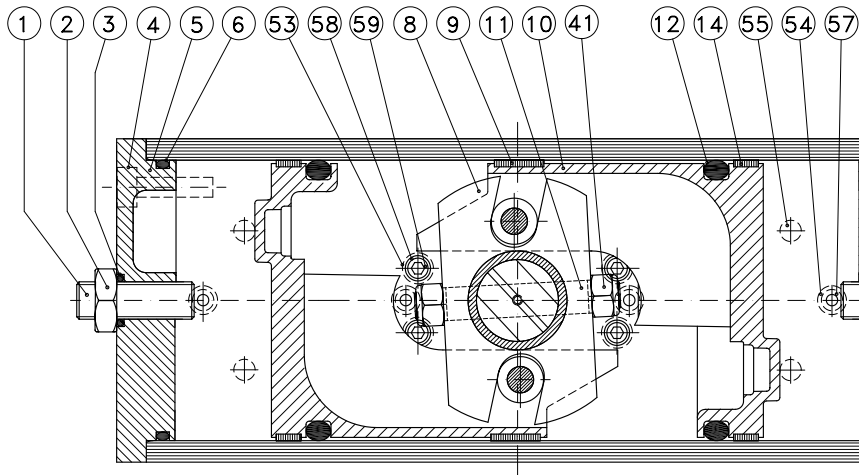
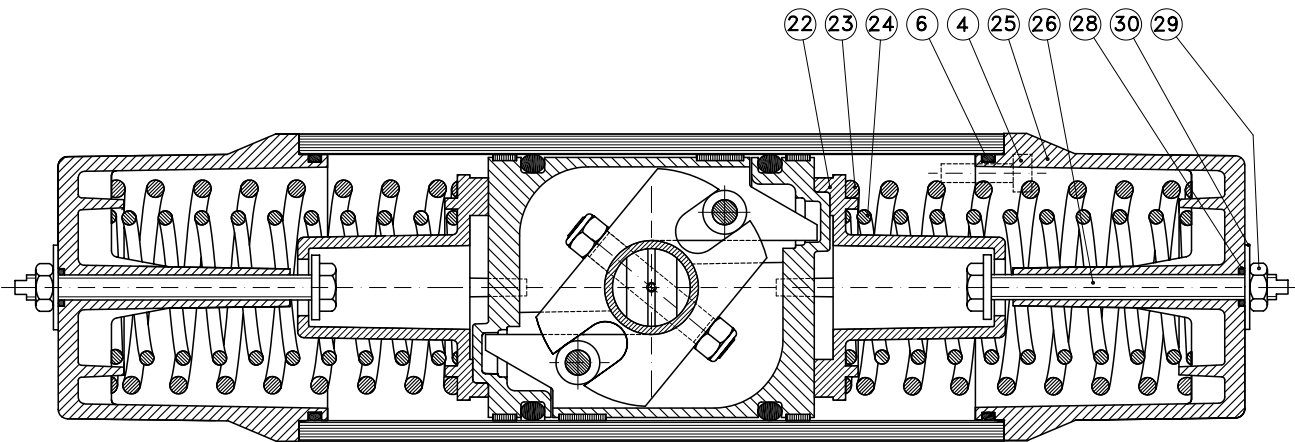

Fig. 1 RC88-DA actuator. Upper cylinder from above. Drawing 007188A
Fig. 4
The Scotch Yoke of the RC actuators has canted slots. Thus the actuator can be given different function depending on how the pistons are mounted in the actuator. The pistons are mounted according to Fig.1, page 3, or Fig.4, in order to achieve the following functions.
According to Fig.1:
According to Fig.4:
4. Mount the pistons according to fig. 4 on page 3.